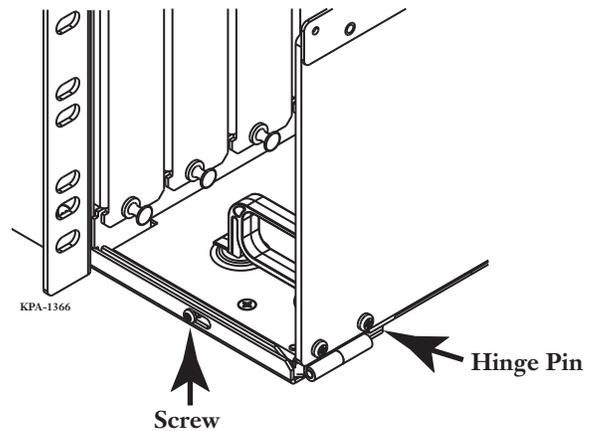

Figure 5
- Step 2:** Slide the screw toward the rear of the housing (Figure 5).